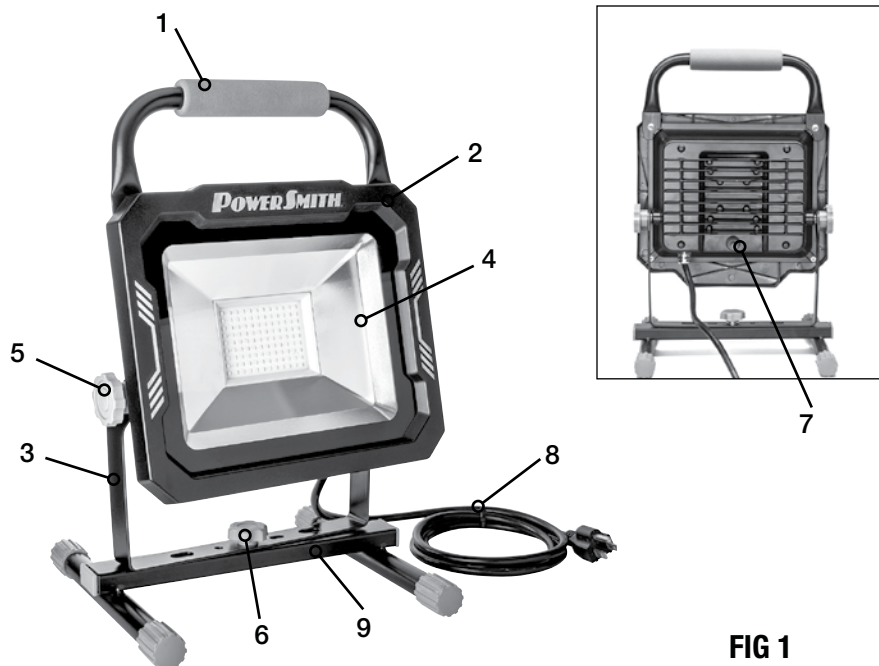

FIG 1
ATTACHING WORK LIGHT HEAD TO STAND (FIG 1)
1. Place the stand (9) on a flat surface.
2. Position the U-Shaped bracket (3) of the work light head against the stand (9) as shown in FIG 1.
3. Use the locking knob (6), flat washer and spring washer to secure the work light head on the stand.